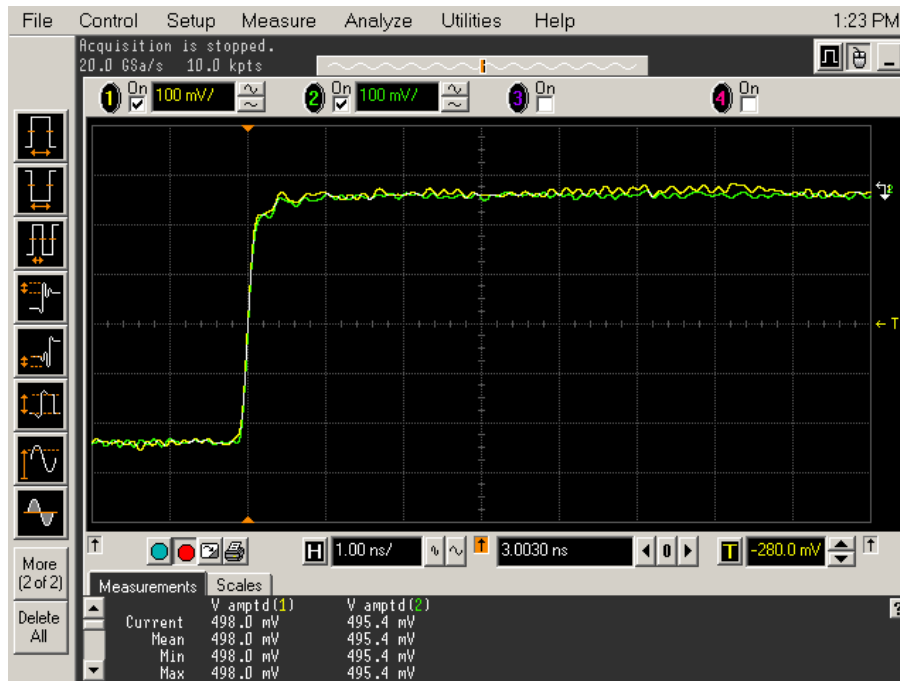

Figure 36 Calibration Probe Waveform Example
- 23 In the Acquisition Setup dialog box enable averaging. When you close the dialog box, you should see waveforms similar to that in Figure 36.